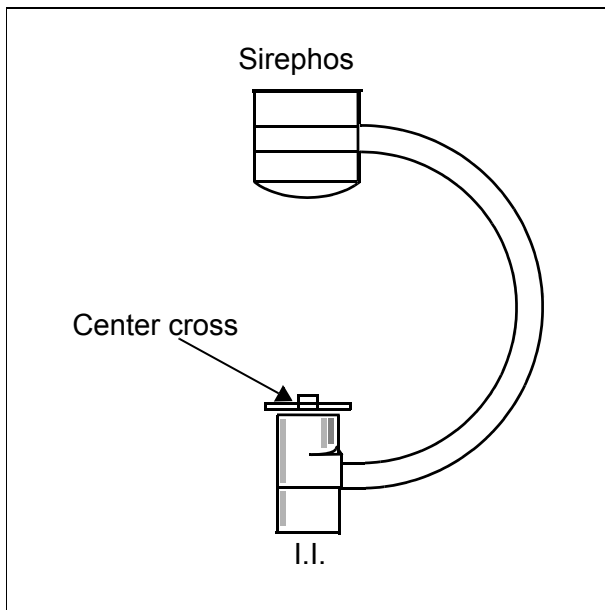

Fig. 6
- Attach and center the center cross on the I.I. (Fig. 6).